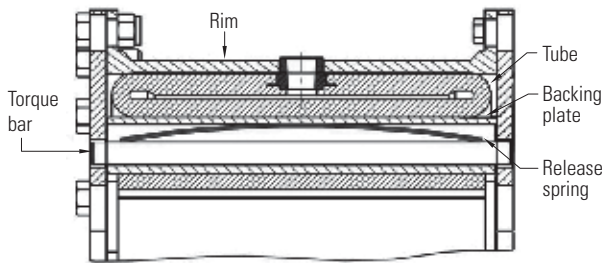

Figure 11
- 4.6.4 Carefully insert the air actuating tube into the rim. Push the valves on the tube through the corresponding holes in the rim and install the spiral snap rings (if applicable). See Figure 11.
- 4.6.5 Place a torque bar in each mating hole in the side plate, slide a friction shoe assembly onto each torque bar and carefully tap a release spring (51TLC1600, 60TLC1600, 66TLC1600 and 76TLC1600 elements have two release springs in each cavity) (the 76TLC2000 has only one release spring per shoe) into place. Make sure the spring(s) is positioned on the side of the torque bar opposite the friction lining. Also, the spring must contact the torque bar at two points, not one. See Figure 11.